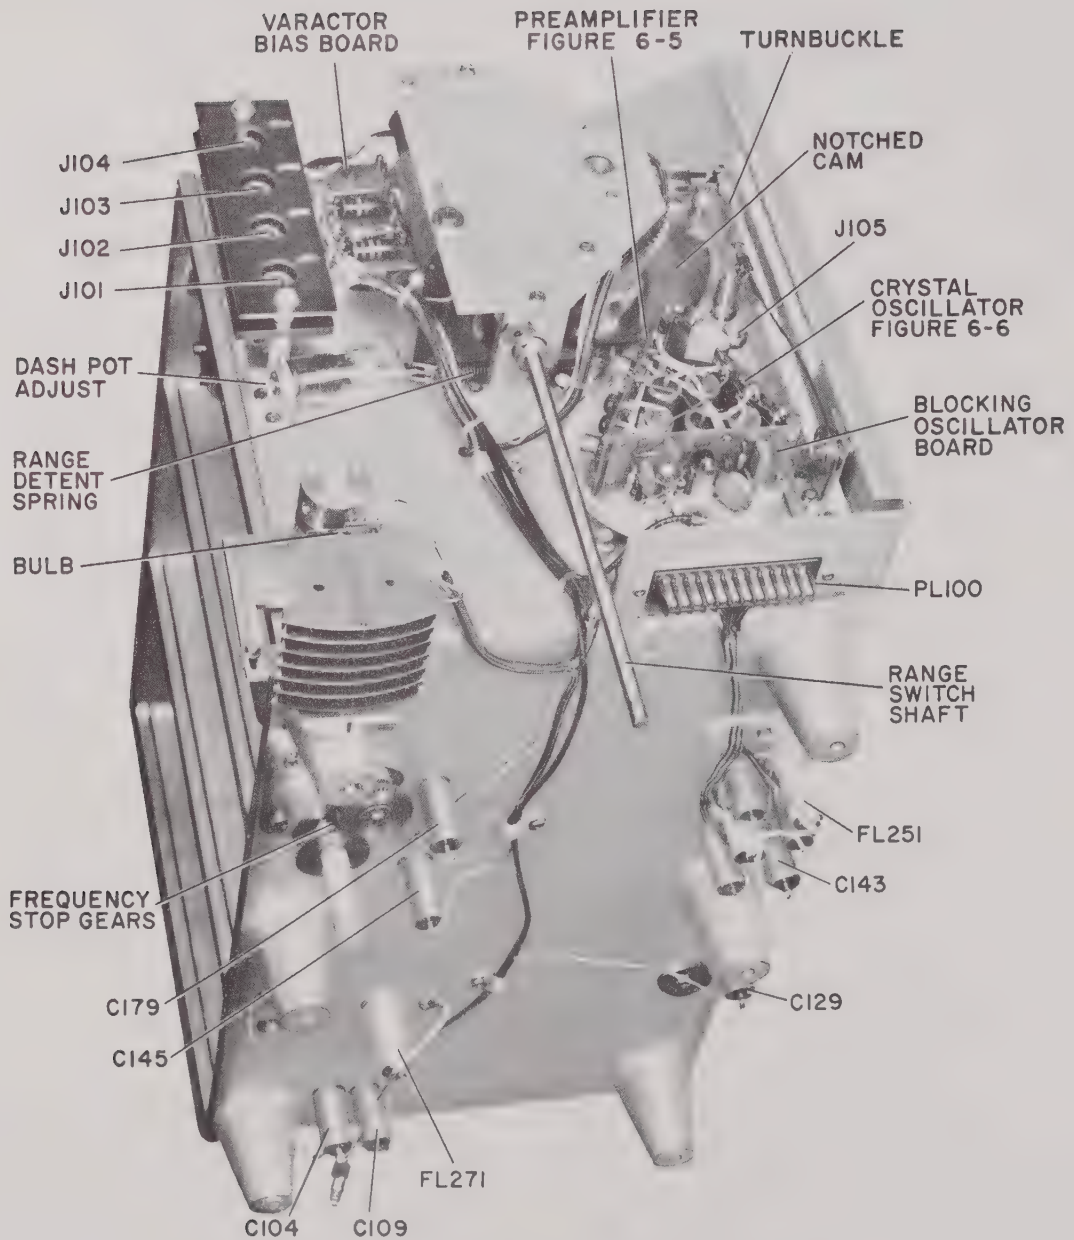

Figure 5-15. RF Assembly top-front exterior view.
5.6.14 CRYSTAL CALIBRATOR (FIGURE 5-15).
Access to the crystal oscillator circuit (including C275), the blocking oscillator circuit, or the detector preamplifier circuit requires removal of the round shield can on the top of the r-f assembly. The two screws which hold the can in place also serve as jacks to pry it off from the tapered base. They should be unscrewed alternately to avoid distorting the can. When replacing the shield, coat the outer diameter of the tapered base with silver-loaded grease, and tighten the two screws alternately so that the can sits squarely on the base. The screws should be tightened until they come to a firm stop. Refer to Figure 5-15 for relative board location and Table 5-4 for voltage.
5.6.15 DIAL LIGHT REPLACEMENT (FIGURE 5-15).